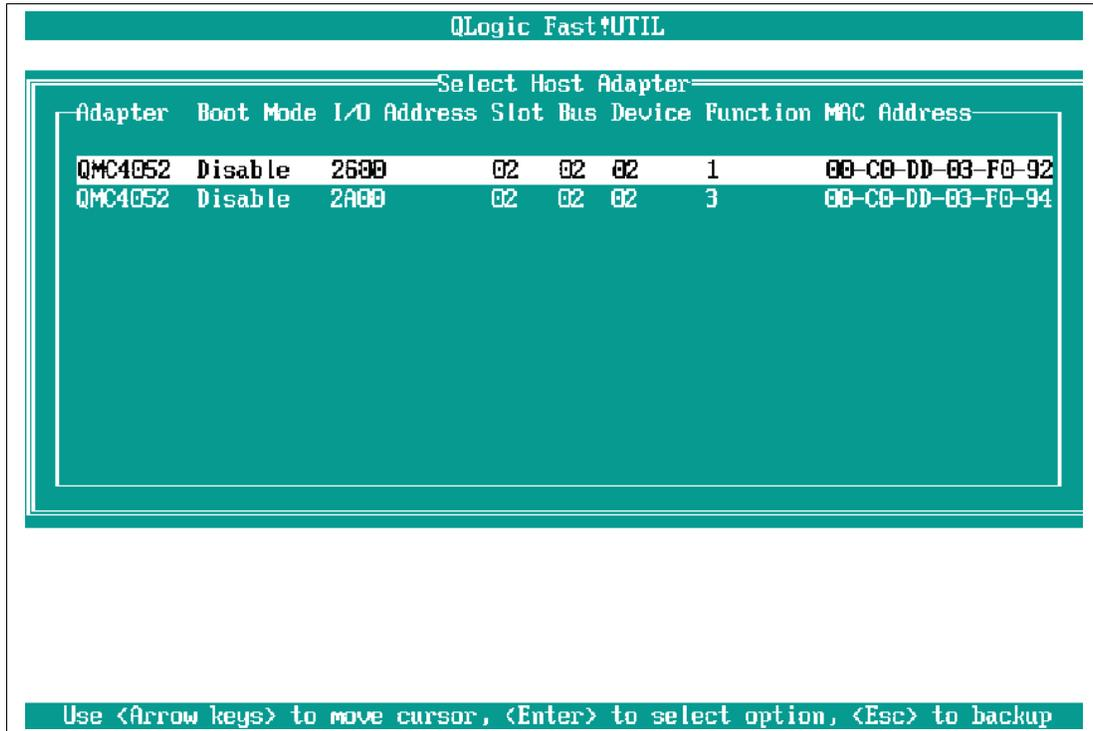

Figure 2-10 QLogic Fast!UTIL menu window
- After pressing the Ctrl+Q keys, you will enter the QLogic iSCSI Expansion Card for IBM BladeCenter hardware initiator BIOS utility. You will see a window similar to Figure 2-10.